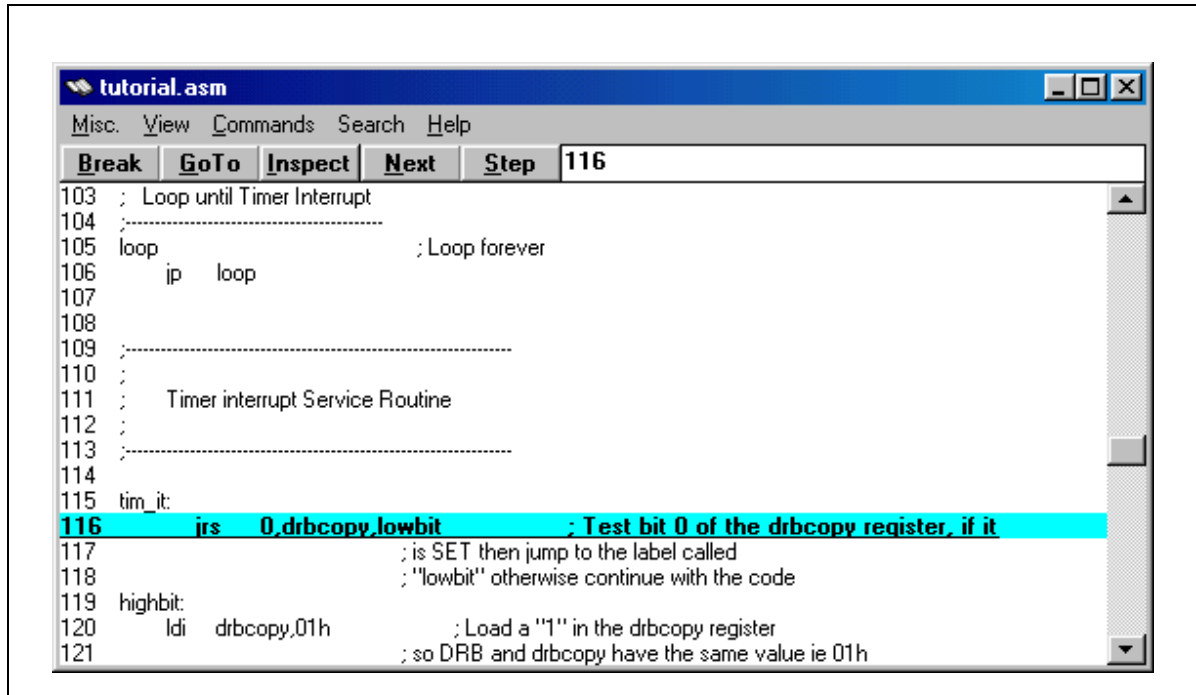

Figure 16: Breakpoint encountered
- 14 In the **Control Bar**, click the **Cont** button - this runs the program from the current Program Counter location without stopping until a breakpoint is encountered (see *Figure 16*).